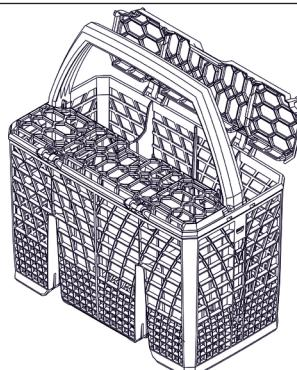

Fig. 5-11
5.4.2 Cutlery basket (see fig. 5-11/5-12 depending on models)